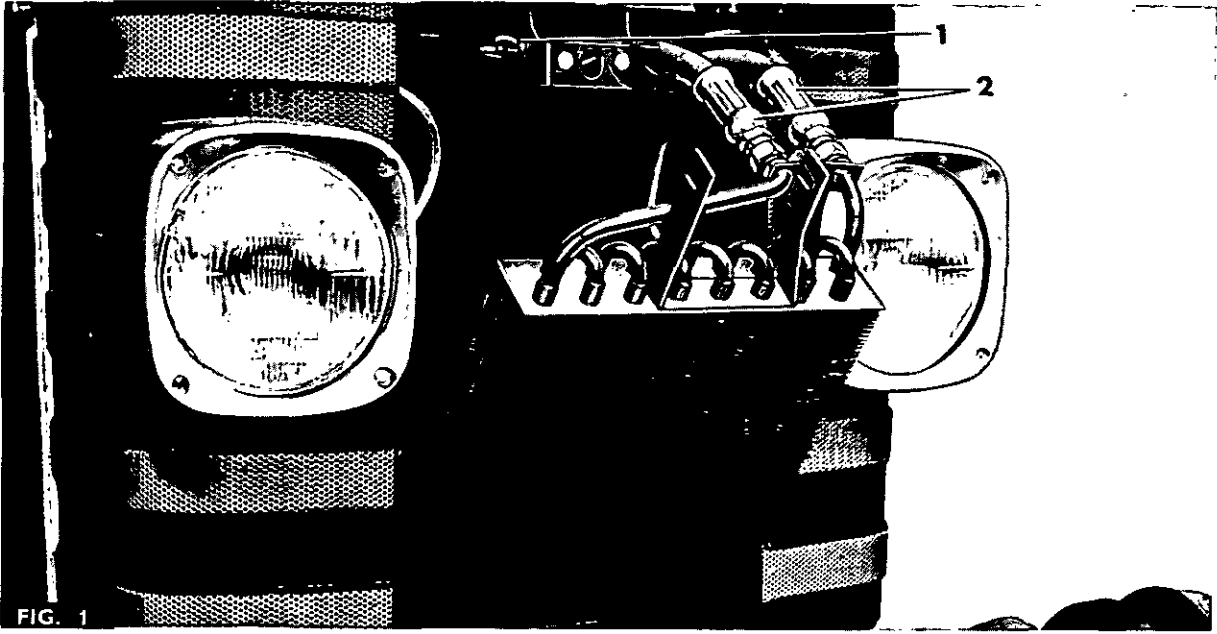

FIG. 1
2. Fig. 1. Slacken the two wingnuts (1) and pull the oil cooler forwards.
3. Disconnect the two hoses (2) at the top of the cooler.
2. Fig. 1. Reconnect the two pipes (2) to the oil cooler.
3. Push the oil cooler into place and secure it with the two wing nuts (1).